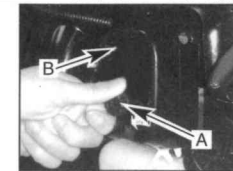
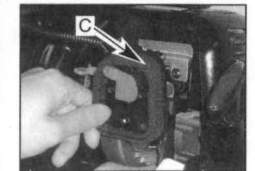

Fig. 20
Fig. 21
1. Loosen knob (A) holding air filter cover in place, remove cover (B) and lift filter (C) from air box (Fig. 20 & Fig. 21).